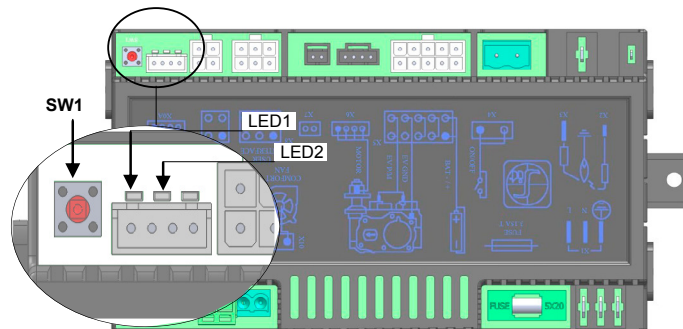
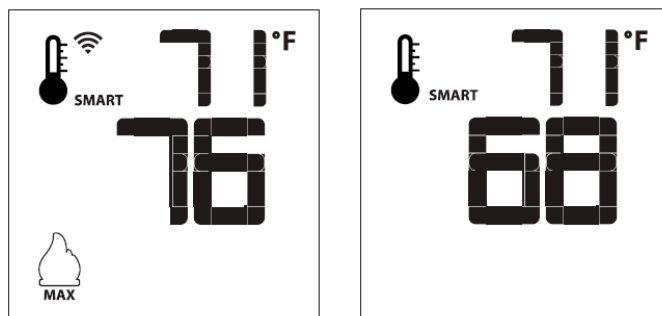
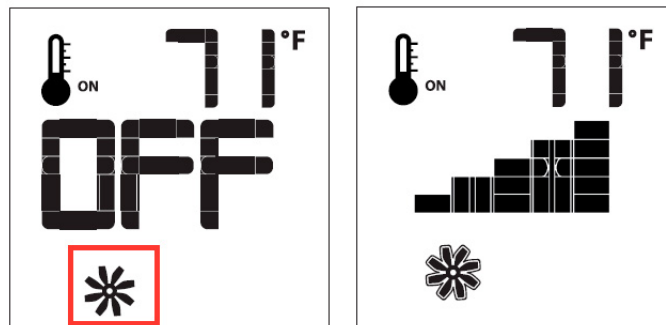
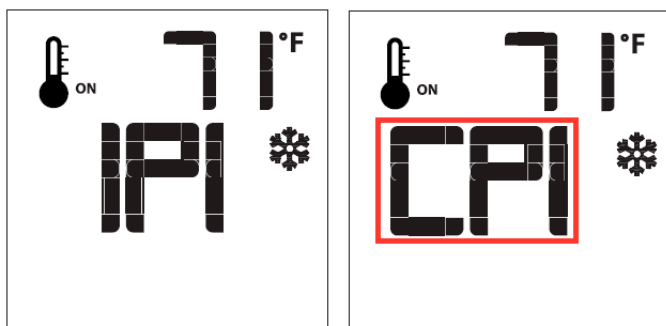

Figure 25.
Figure 25i. Smart flame function
Figure 25l. Fan Speed Control
Figure 25n. Continuous Pilot / Intermittent Pilot Selection
The Proflame 2 Transmitter uses a streamlined design with a simple button layout and informative LCD display. A Mode Key is provided to index between the features and a Thermostat Key is used to turn On/Off or index through Thermostat functions, see Figure 25. Additionally, a Key Lock feature is provided.
The Smart Thermostat function adjusts the flame height in accordance to the difference between the set point temperature and the actual room temperatures. As the room temperature gets closer to the set point the Smart Function will modulate the flame down. To activate the function, press the Thermostat Key, see Figure 25, until the word "SMART" appears to the right of the temperature bulb graphic, see Figure 25i.
The fireplace is equipped with optional hot air circulating fans. The speed of the fans can be controlled by the Proflame system. The fan speed can be adjusted through six (6) speeds. To activate this function use the Mode Key, see Figure 25, to index to the fan control icon, see Figure 25l. Use the Up/Down Arrow Keys to turn on, off, or adjust the fan speed. A single "beep" will confirm reception of the command.
If the fireplace is equipped with variable accent lights. The accent light function controls the Accent Lights. To activate this function use the Mode Key, see Figure 25, to index to the accent light icon, see Figure 25m.
With the system in "off" position press the Mode Key, see Figure 25, to index to the CPI mode icon, see Figure 25n. Pressing the Up Arrow Key will activate the Continuous Pilot Ignition mode (CPI). Pressing the Down Arrow Key will return to IPI. A single "beep" will confirm the reception of the command.